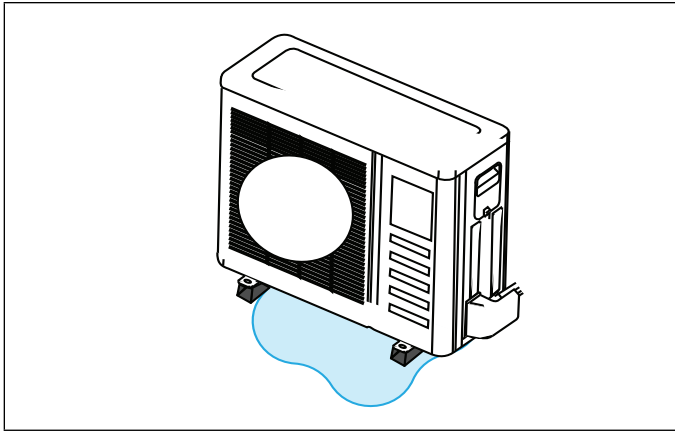

Figure 27. Avoid Defrost Water Ice Hazard
- Carefully consider how to manage defrost water disposal to prevent ice from blocking walkways or creating a safety hazard near the outdoor unit as illustrated in “Figure 27. Avoid Defrost Water Ice Hazard”